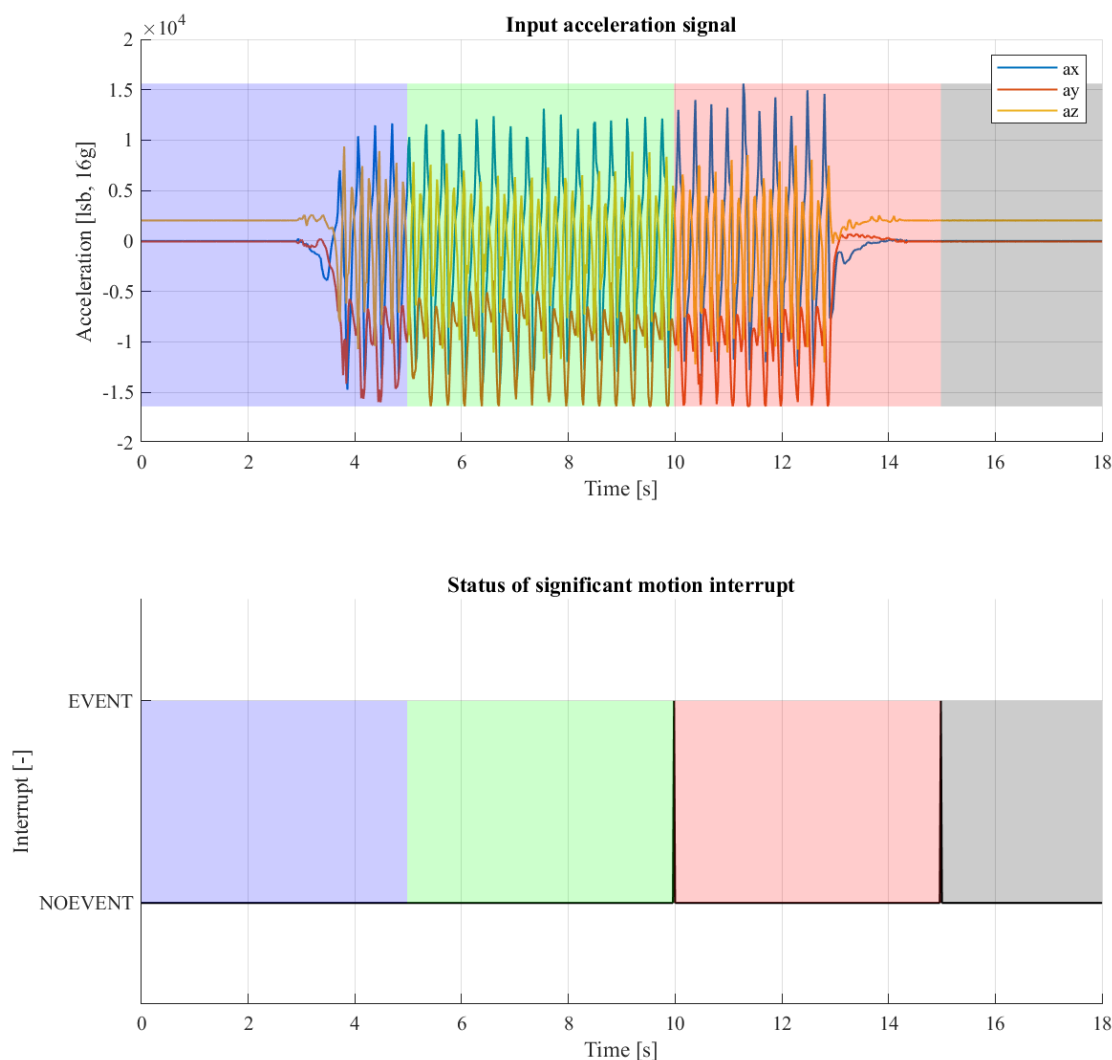

Figure 12 : Significant motion interrupt detection behavior for walking use-case
**Example** An example for the behavior of the significant motion detection for a walking scenario is depicted in Fig. 12, where `EXT.SIGM0_1.block_size` is set to 5 seconds (0x00FA).